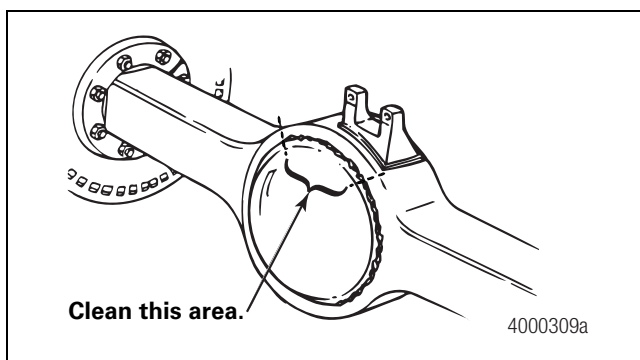

Figure 4.9
4. For housing-to-cover welds, clean the outside housing-to-cover weld area two-three-inches (50.8-76.2 mm) past each end or side of the crack. Clean the inside area where the cover mates with the housing. Clean the area completely around the cover. Use a wire brush and a cleaning solvent that will remove dirt and grease from these areas. Figure 4.9.